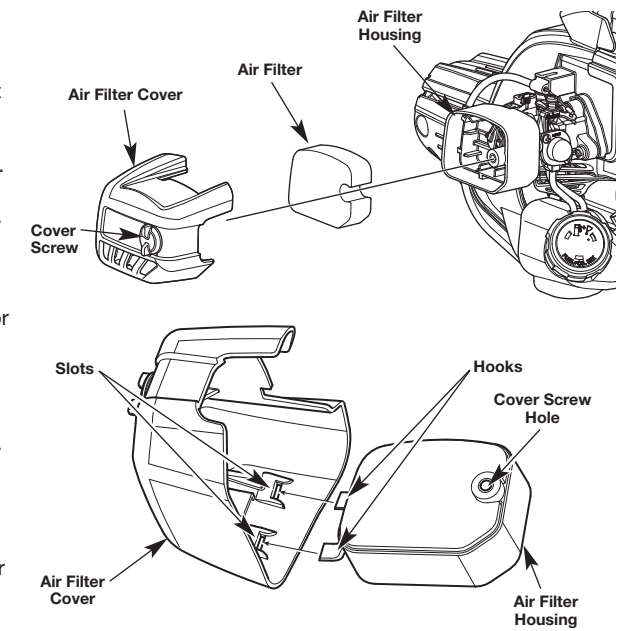

Fig. 16
1. Open the air filter cover by unscrewing the cover screw (Fig. 16).
2. Remove the air filter and the screen that sits behind it (Fig. 16).
6. Replace the air filter and the screen that sits behind it (Fig. 16).
7. Reinstall the air filter cover. Insert the hooks on the air filter housing into the slots on the air filter cover (Fig. 16).
8. Swing the air filter cover to the right and align the cover screw with the cover screw hole (Fig. 16). Tighten the cover screw to secure the air filter cover.